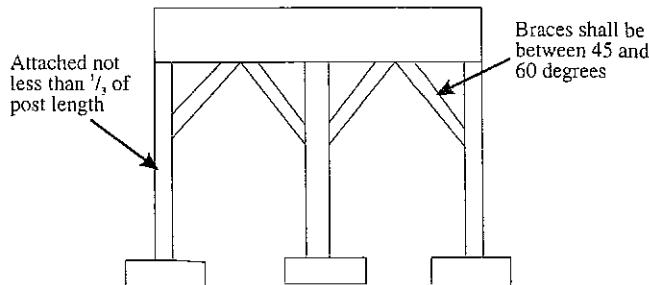

FIGURE AM109.1
**AM109.1.2.** 4x4 wood knee braces may be provided on each column in both directions. The knee braces shall attach to each post at a point not less than  $\frac{1}{3}$  of the post length from the top of the post, and the braces shall be angled between 45 degrees and 60 degrees from the horizontal. Knee braces shall be bolted to the post and the girder/double band with one  $\frac{5}{8}$  inch hot dipped galvanized bolt with nut and washer at both ends of the brace per Figure AM109.1